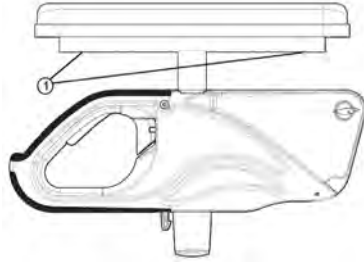

Fig. 17
- Remove screws (1) (Fig. 17) located under pad (through the tube).
- Reinstall screws (1) and tighten firmly.